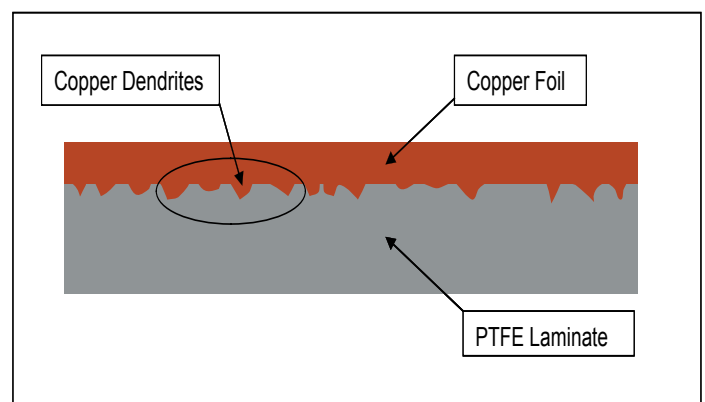

Figure 1 – Illustration of copper laminated to PTFE surface
**Bond Surface Condition:** The condition of the substrate surface prior to bonding is critical in achieving good bond strength. As shown in Figure 1, the copper foil of the laminate has a dendrite structure designed to increase the copper peel strength. As the copper foil is etched, the dendrite